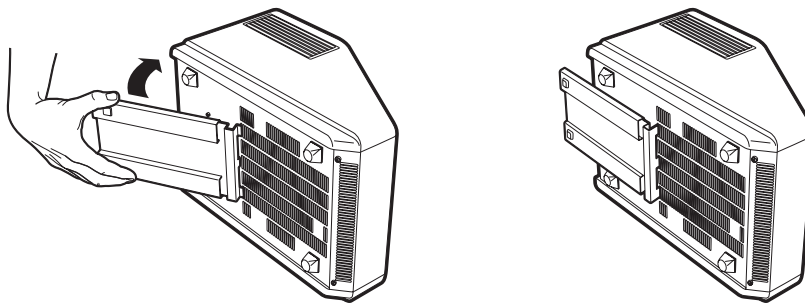

Figure 3.1. Installing the base-stabilizer bar on the DNA Engine base
1. Tilt the cycler on its side so that the bottom air vents are accessible (Figure 3.1).